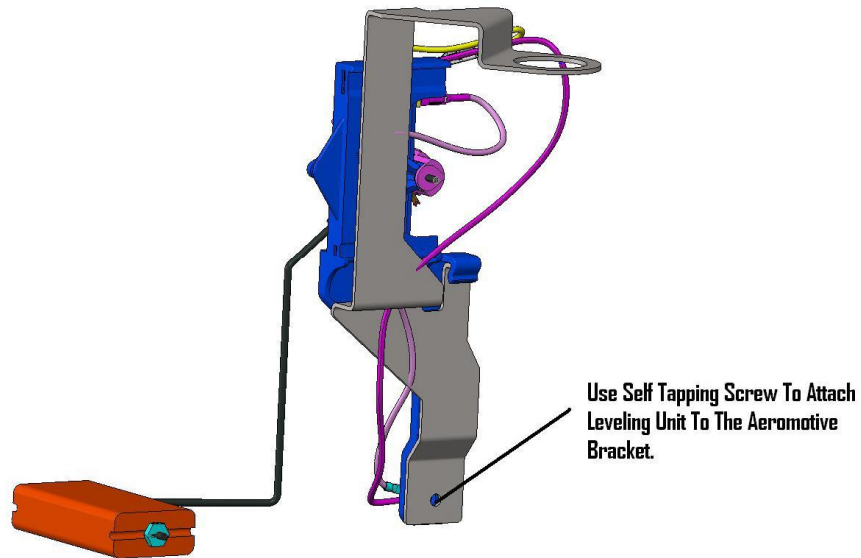

FIGURE 1-4
11. Now remove the fuel level sensor and install on the Aeromotive fuel level sensor bracket. Cut the factory ground terminal off and crimp on the larger ring terminal. This will allow the larger self tapping screw to fit and make a good ground **FIGURE 1-4**.